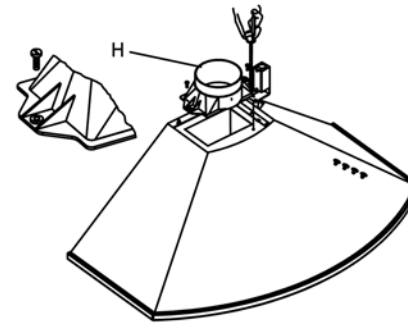

Fig. 1
- Connect the plastic conical outlet piece supplied with the hood (6 inches diameter) to an exhaust pipe connected directly to the outside. (Fig. 1)
- Screw on the connection box following Fig. 1 with the two 1/8" x 11/16" screws supplied in the box of accessories